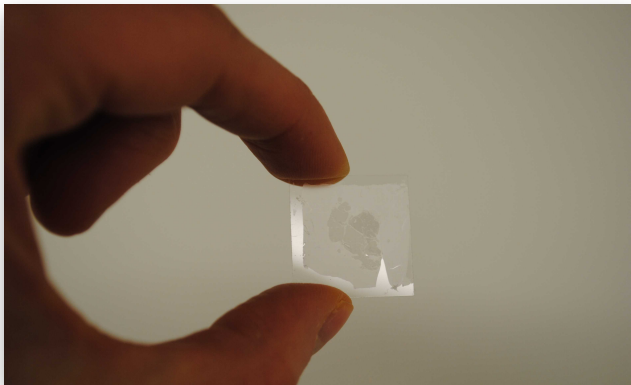

Fig. 1 | Coverslip with FFPE tissue section, easy to recognize the tissue side due to the presence of paraffin.
- 7 Place the coverslip (tissue facing up, see Fig. 1) in a slide warmer and bake it at  55 °C during  01:00:00 1h